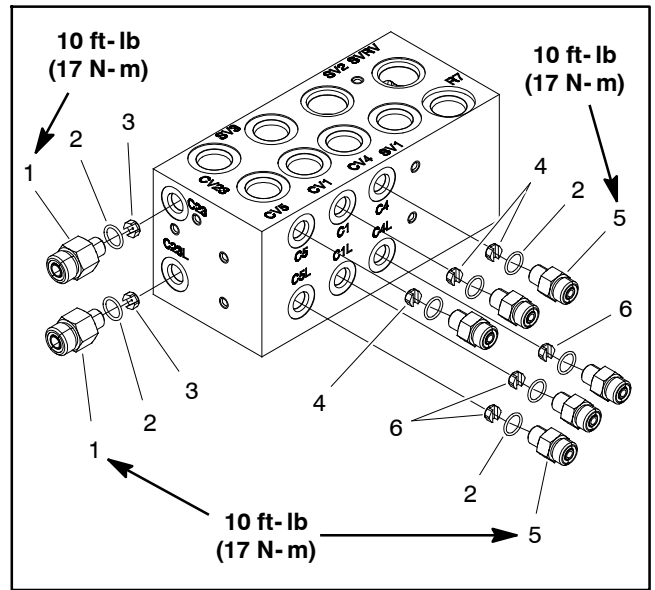

Figure 80
IMPORTANT: A flow control orifice is placed beneath several of the hydraulic fittings on the lift control manifold (Fig. 80). The lift manifold uses three (3) different orifice sizes. If a fitting is removed from the lift control manifold and an orifice is in the manifold port, make sure to remove orifice and label its position for assembly purposes.
IMPORTANT: When installing orifice in manifold (Fig. 80), make sure that orifice is flat in the base of the fitting cavity. Manifold damage is possible if the orifice is cocked in the cavity.